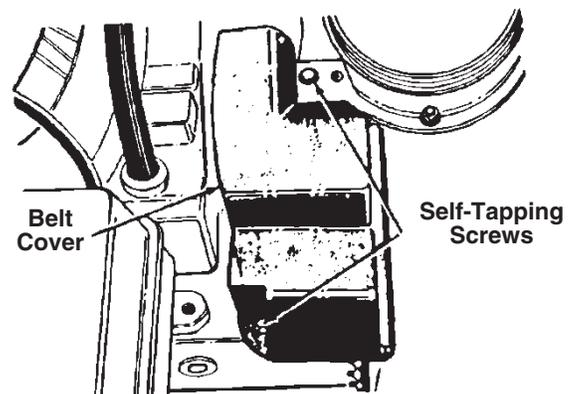

FIGURE 5. (Chute removed for clarity.)
3. Remove the plastic belt cover on the front of the engine by removing two self-tapping screws. See figure 5.